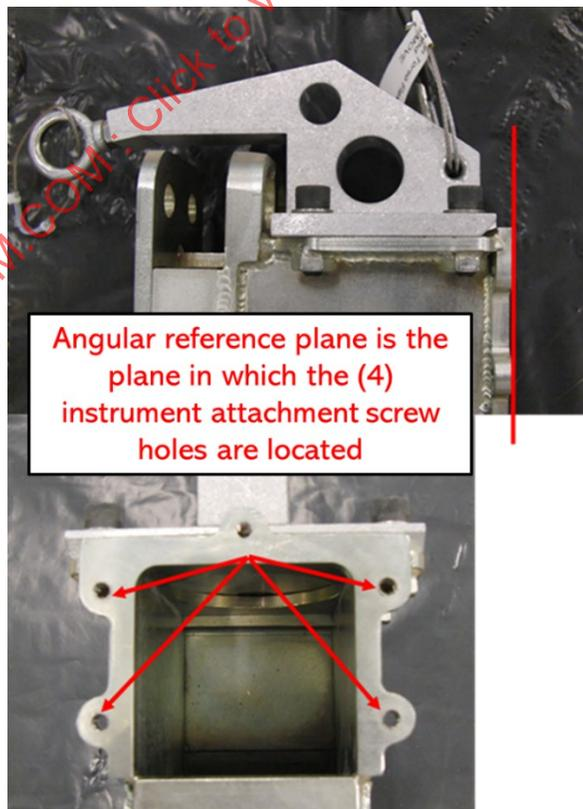

Figure 4 - Angle reference plane
This SAE Recommend Practice is being revised for minor formatting issues. The alignment arrows in Figure 8 have been corrected and the minor wording change was made in Figure 4.
- h. Angle measurement device: To measure the back of the spine box angle at the instrument cavity. The design of this bracket is not critical, as long as it references the back of the instrumentation cavity. This is the reference plane for all angular measurements (Figure 4).